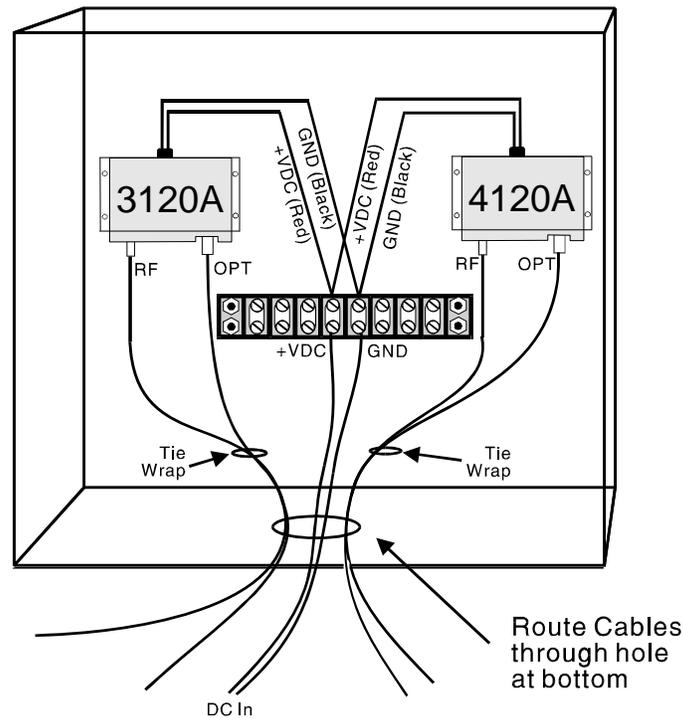

Figure 5-1 Installing flange-mount units in the outdoor NEMA enclosure.
3. The electrical connections are shown in Figure 5-1. Connect the red and black wire leads from the module to the terminal block. Make sure the red lead goes to the terminal where the +VDC wire from the remote power supply is connected. The other lead is Ground. The remaining three leads from each module may be secured to the terminal strip.